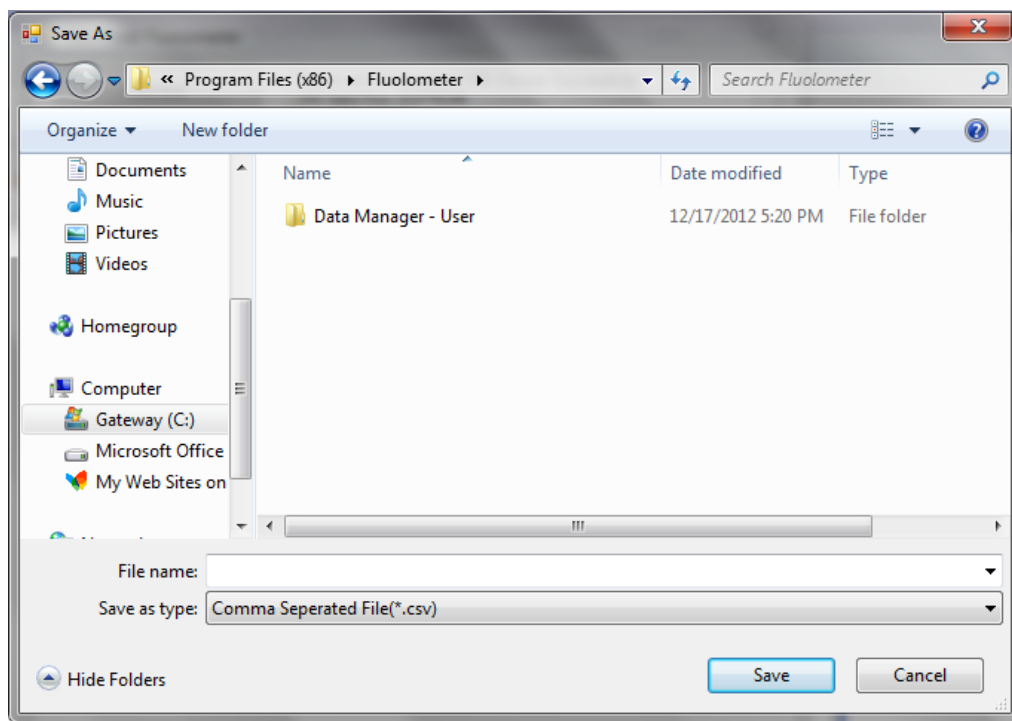

Figure 19. Save As window
- e. Click “**Save Data**” button to bring “**Save As**” window as shown in Figure 19. Type in the file name to save data into \*.csv format file which can be opened in Microsoft Excel spreadsheet.